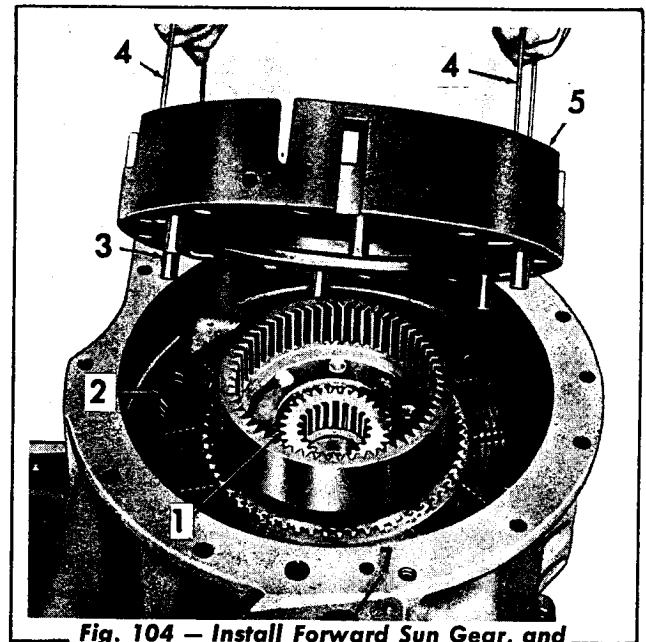

Fig. 104 — Install Forward Sun Gear, and Forward and Reverse Clutch Anchor
20. Install the forward sun gear (Fig. 104) with the flat side up. Align the external splined clutch plate tangs with the anchor pins. Using wire lifting hooks, install the forward and reverse clutch anchor, aligning pin slot with hole.